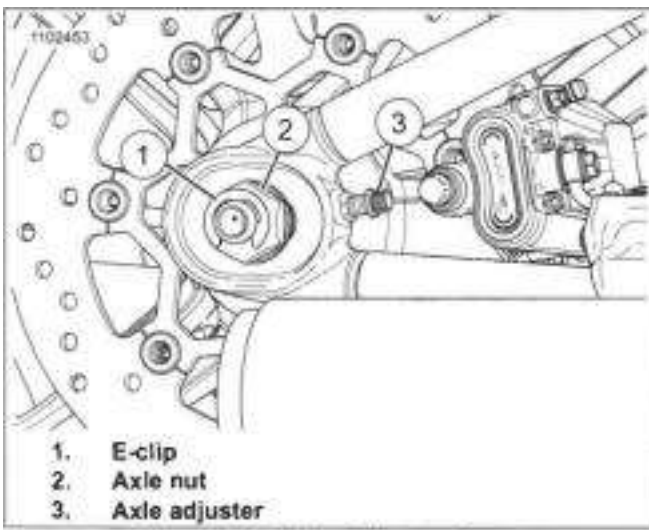

Figure 2-37. Axle Adjuster: Screw
1. See Figure 2-37. Loosen rear axle nut (2).
- a. Screw style: Turn axle adjusters (3) an equal amount.